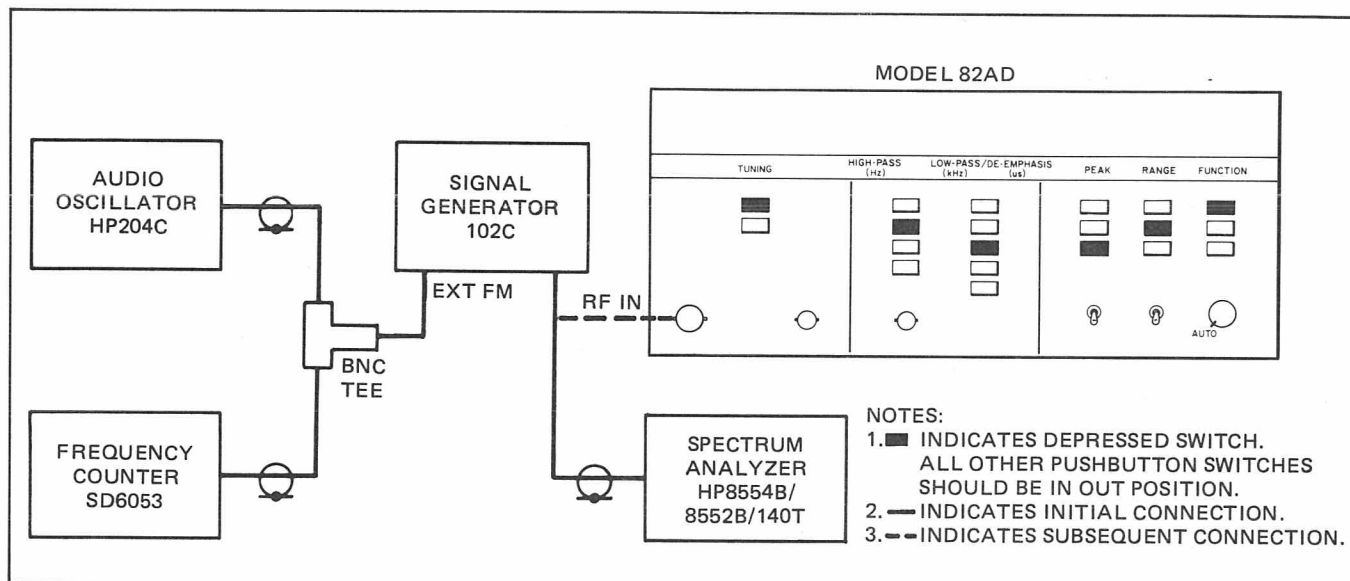

Figure 2-9 Deviation Accuracy Check, Test Setup
- a. Connect the Model 82AD and test equipment as shown in Figure 2-9.
- b. Depress the Model 82AD switches indicated in Figure 2-9. Set the LEVEL control to the AUTO position.